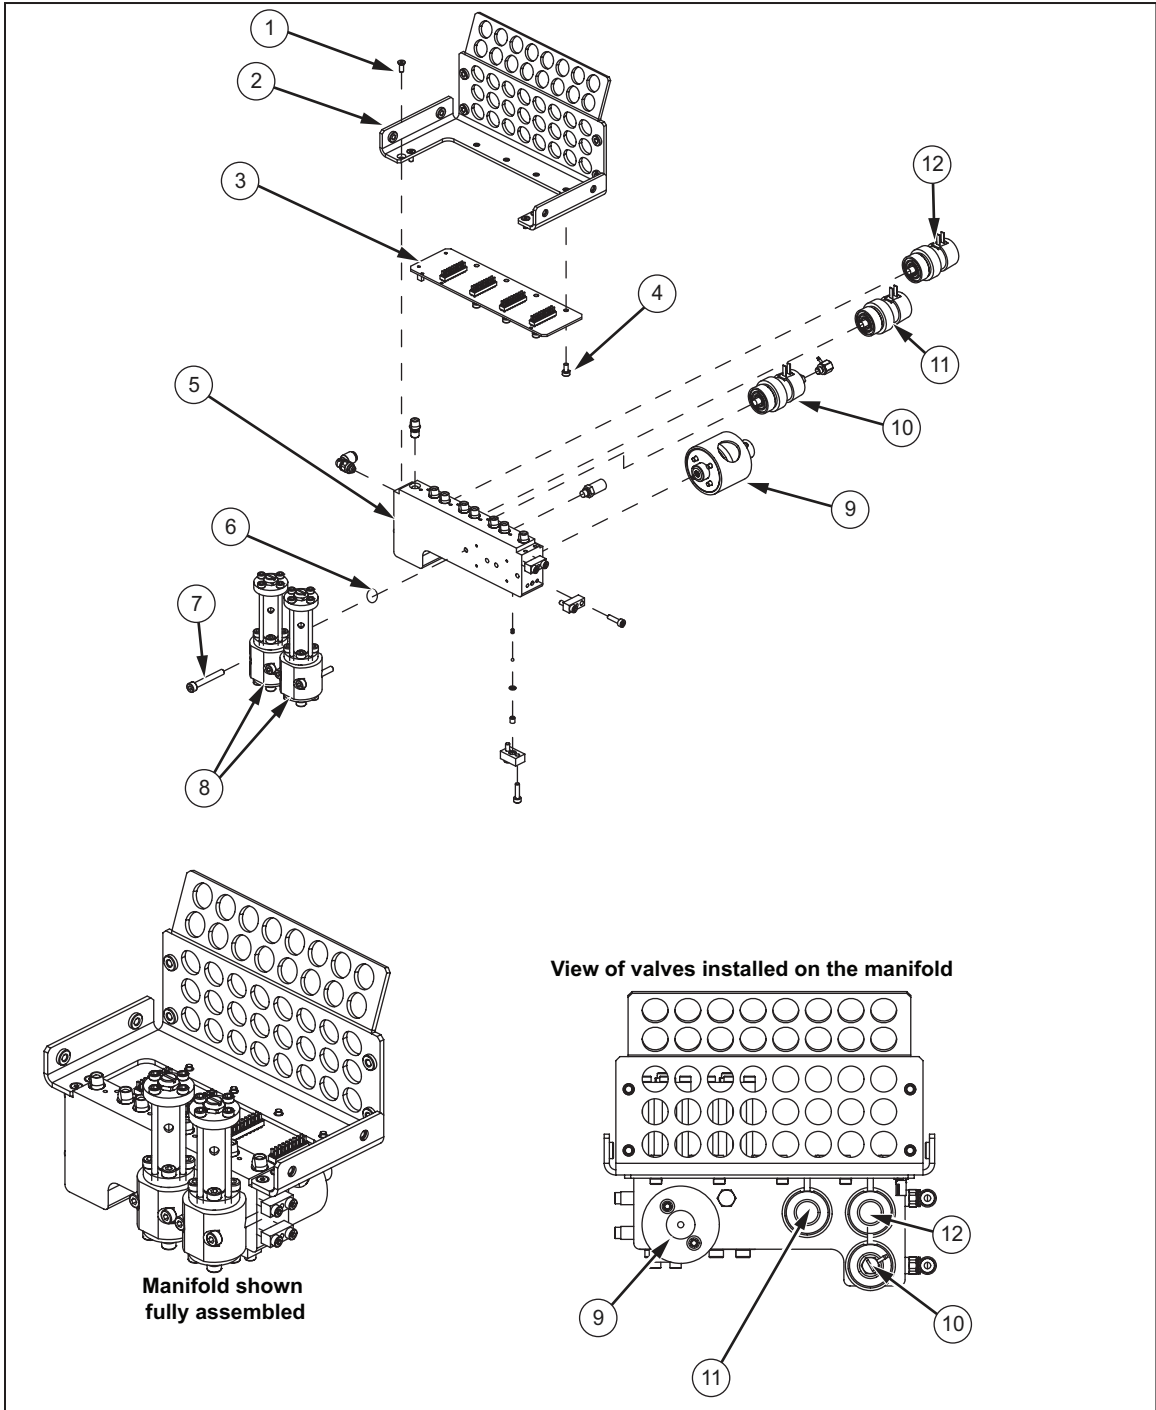

Figure 4-18. System Manifold Exploded View
Use the following instructions and reference Figure 4-18 to replace the precision control valve (⑧).
1. Remove the two screws (⑦) that secure the precision control valve (⑧) to the manifold (⑤). Make sure not to lose the o-ring (⑥) when removed.
2. Put the o-ring (⑥) in the new precision control valve (⑧) and secure it to the manifold (⑤) with two screws (⑦).
Use the following instructions and reference Figure 4-18 to replace a control valve (items ⑩, ⑪, or ⑫).
1. To replace a control valve (items ⑩, ⑪, or ⑫), insert a small pointed screwdriver into the side of the valve. Pry counterclockwise to remove the valve. Once loose, remove by hand.
Use the following instructions and reference Figure 4-18 to replace the backplane pca (③).
2. Remove the four screws (①) that secure the system manifold bracket (②) to the manifold (⑤).
3. Remove the four screws and washers (④) that secure the backplane pca (③) to the system manifold bracket (②).
4. Install the four screws and washers (④) to secure the new backplane pca (③) to the system manifold bracket (②).
5. Install the four screws (①) that secure the system manifold bracket (②) to the manifold (⑤).